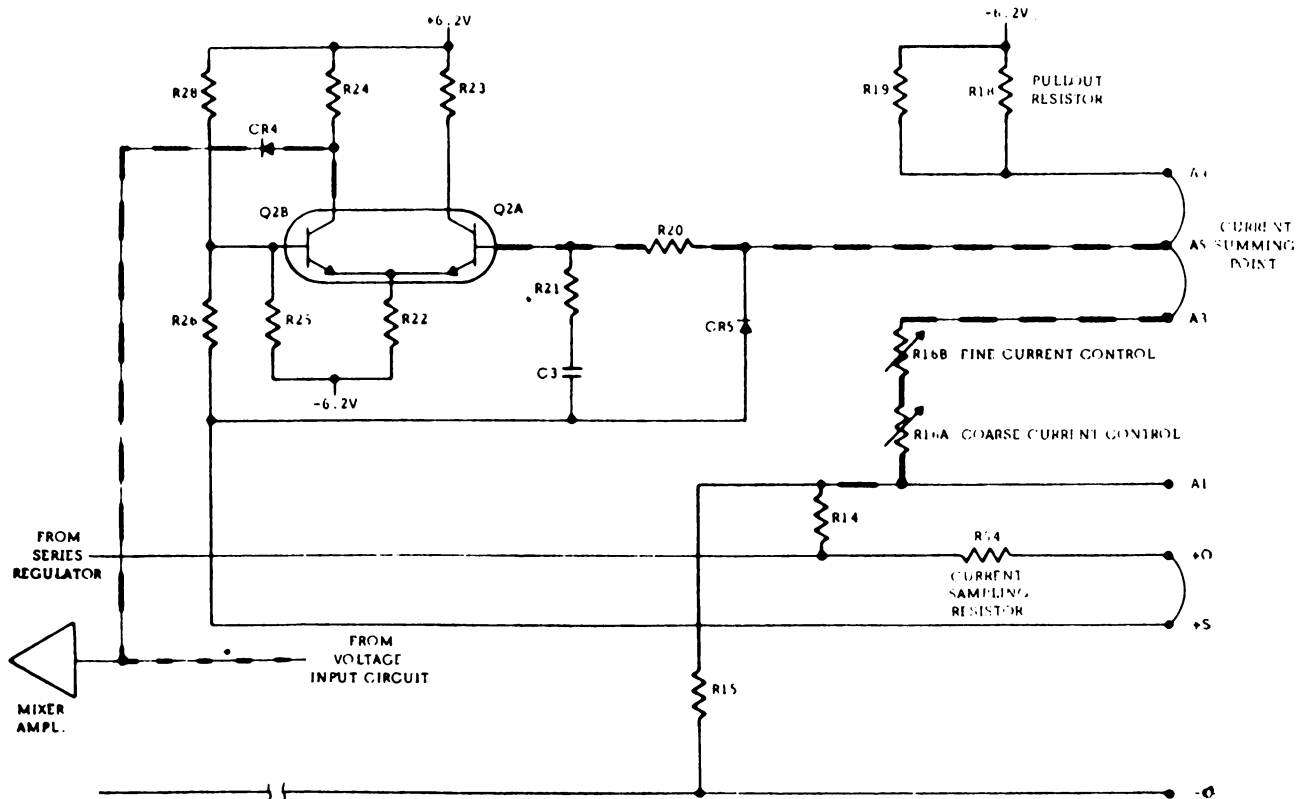

Figure 2-18. Constant current input circuit.
**Constant Current Input Circuit.** This circuit (fig. 2-18) is similar in appearance and operation to the constant voltage input circuit. It consists of the coarse and fine current programming resistors (R16A and R16B), and a differential amplifier stage (Q2 and associated components). Like transistor Q1 in the voltage input circuit, Q2 consists of two transistors, having matched characteristics, that are housed in a single package.
Refer to figure 2-18 as necessary to answer the following questions.